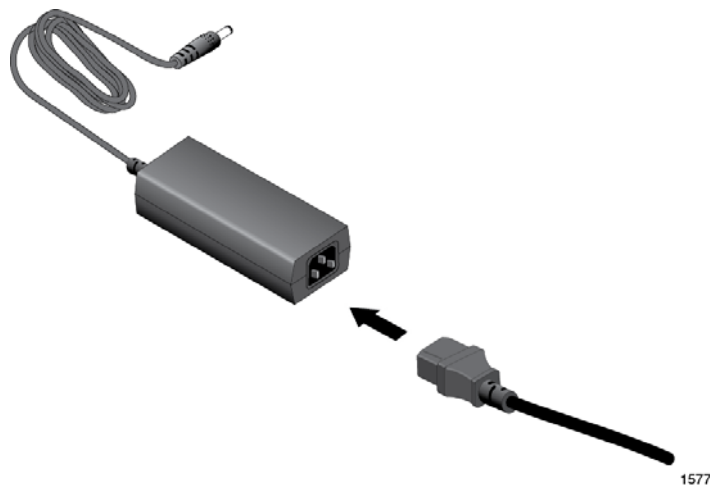

Figure 26. Connecting the Power Cord to the AC/DC Adapter
9. Connect the power cord to the AC/DC adapter. Refer to Figure 26.